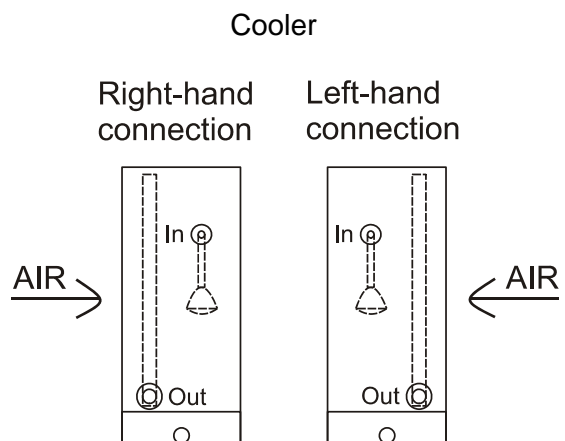

Figure 2
- The battery is normally provided with signs, that shows the connections of inlet – alternative outlet water connections, see figure 2.